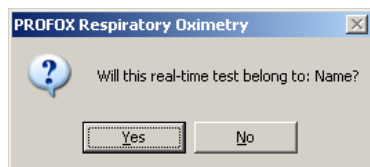

Figure 25. Profox Confirmation
7. The Profox Confirmation dialog box (seen Figure 25. Profox Confirmation, below) will appear.